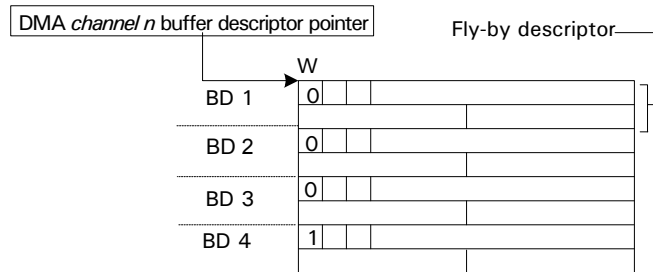

Figure 25: DMA Buffer descriptor structure
W	<p>When the W (wrap) bit is set, it informs the DMA controller that this is the last buffer descriptor within the continuous list of descriptors. The first buffer descriptor is found using the initial DMA channel buffer descriptor pointer.</p> <ul style="list-style-type: none"> ■ When W is not set (0), the next buffer descriptor is found using an offset from the current buffer descriptor. An unset WRAP bit acts as a continuation indicator; that is, when W=0, the DMA channel continues to address buffer descriptors until it encounters buffer descriptor with W set to 1. ■ When W is set (1), the bit wraps around to the first buffer descriptor. <p>See Figure 25, "DMA Buffer descriptor structure," on page 172 for an illustration.</p>